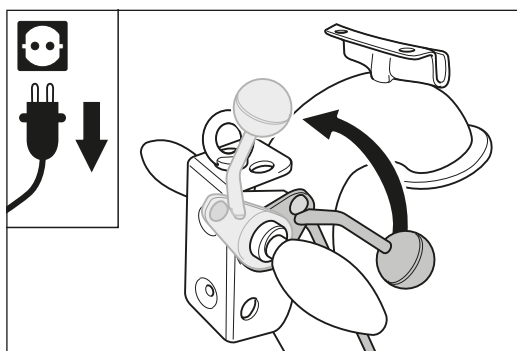

Fig. 11 Lift the sanding drum off the floor by turning the lowering lever at the handle upwards.
- 5 Lift the sanding drum off the floor by turning the lowering lever at the handle upwards (fig. 11).